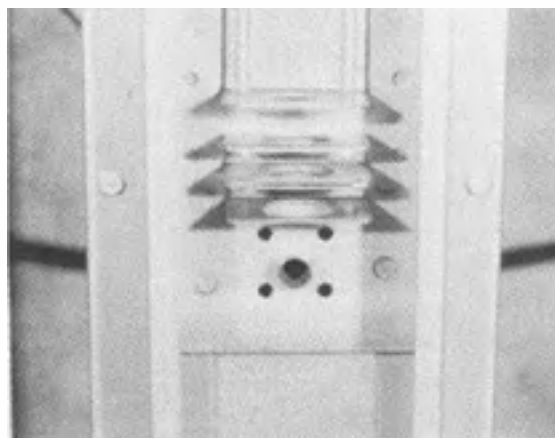

FIG. 25
9. Remove the four (4) screws securing vent assembly to rear of fryer. Remove vent assembly and vent block nut plate. Save screws, vent assembly and nut plate for reuse.
12. Place vent assembly on rear of fryer noting position of vent tube. Adjust vent tube **WITHOUT BENDING** matching end of tube with hole in vent assembly. Replace the four (4) screws securing vent assembly to rear of fryer. **NOTE:** Vent tube must protrude through vent assembly at least 1/2" (See Figure 25).